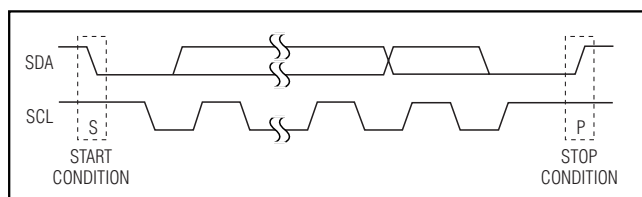

Figure 3. Start and Stop Conditions
Each transmission consists of a START condition (Figure 3) sent by a master, followed by the MAX6964 7-bit slave address plus R/W bit, a register address byte, 1 or more data bytes, and finally a STOP condition (Figure 3).
Both SCL and SDA remain high when the interface is not busy. A master signals the beginning of a transmission with a START (S) condition by transitioning SDA from high to low while SCL is high. When the master has finished communicating with the slave, it issues a STOP (P) condition by transitioning SDA from low to high while SCL is high. The bus is then free for another transmission (Figure 3).